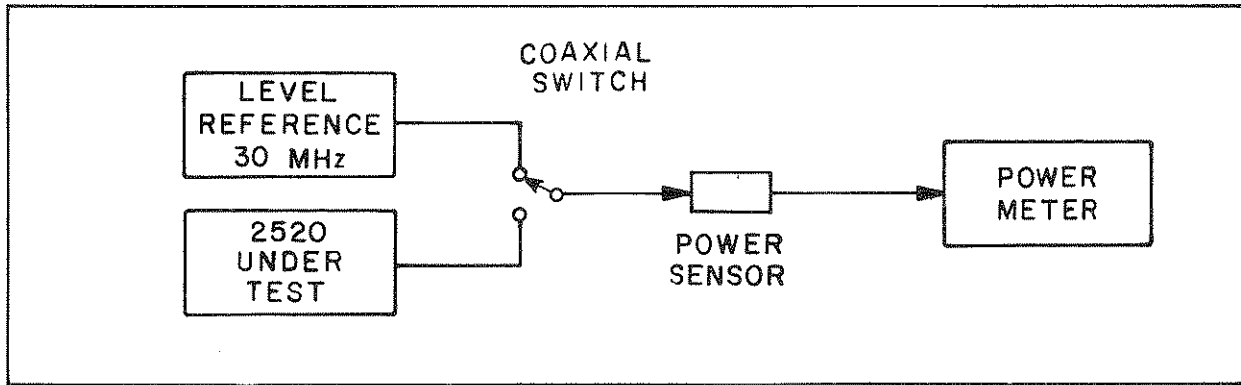

Figure 6-101. Comparison of Measurements on a Power Meter
**1. Setup.** Refer to Table 6-1, Test Equipment Required, for a description of the test equipment used in this test. Refer to the Operation section as required. Power up the equipment and let it warm up for 5 or 10 minutes. Connect the 2520 and the 30 MHz Reference to the input of a coaxial RF switch, as shown in Figure 6-101, and connect the output of the switch to a high sensitivity power sensor (to -70
**4. Connections for Calibration.** Connect the 2520 and the 30 MHz Reference to the input of a two position coaxial RF switch, and connect the output of the switch to a power sensor as shown in Figure 6-101. Do not use cables, but instead use four rigid 90 degree type N adapters. Then connect the sensor output to a power meter. Put the power meter in watts mode for best resolution.